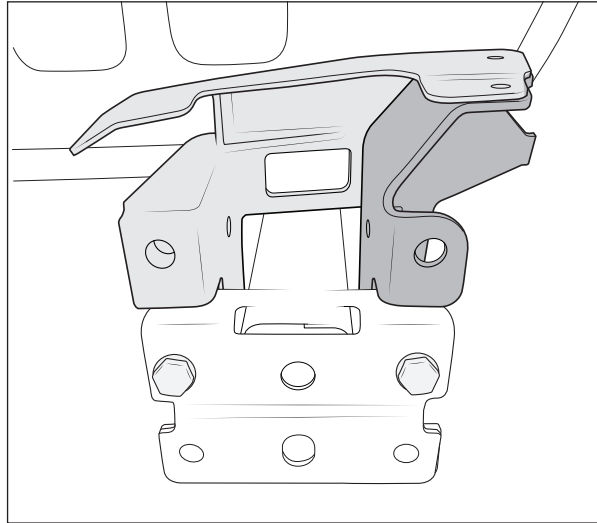

Figure 2
1. Install the bumper support weldments to the frame flanges. Temporarily hold in place by hand tightening an M12x35mm bolt and washer into the center front mounting holes. Leave fairly loose at this time (fig. 2).